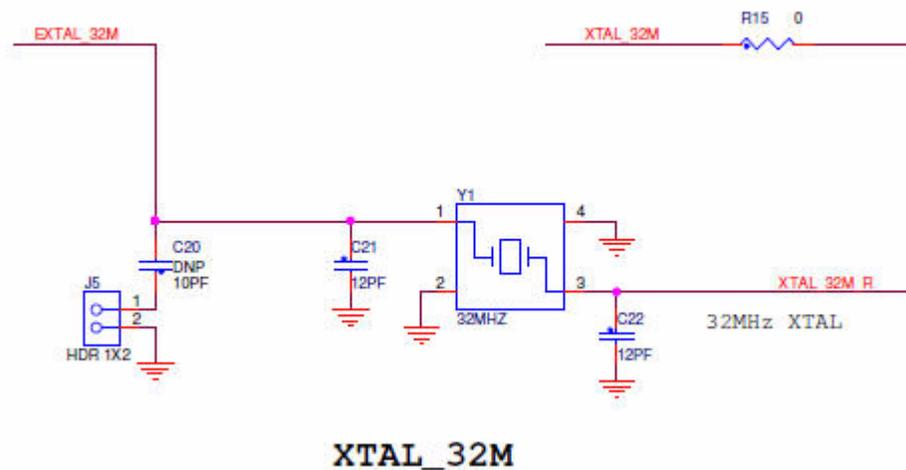

Figure 3-5. TWR-KW24D512 32 MHz Reference Oscillator Circuit
- 32 MHz Reference Oscillator - Figure 3-5 shows the external 32 MHz external crystal Y1. This mounted crystal must meet the specifications outlined in the AN3251 application note. The IEEE 802.15.4 Standard requires that the frequency be accurate to less than  $\pm 40$  ppm.